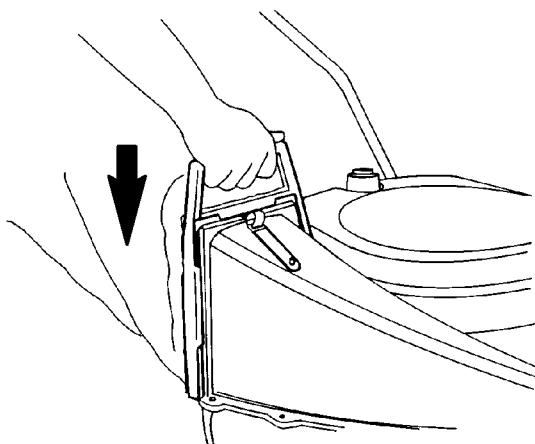

Figure 47
3. Slide the grass bag handle down over the chute flange. Push down on the handle until it “seals” with the latch tabs (Fig. 47).